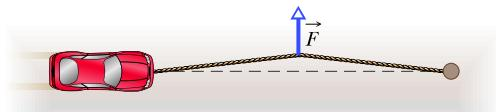

Figure 12.16 Problem 12.
**12 E** In Fig. 12.16, trying to get his car out of mud, a man ties one end of a rope around the front bumper and the other end tightly around a utility pole 18 m away. He then pushes sideways on the rope at its midpoint with a force of 550 N, displacing the center of the rope 0.30 m, but the car barely moves. What is the magnitude of the force on the car from the rope? (The rope stretches somewhat.)